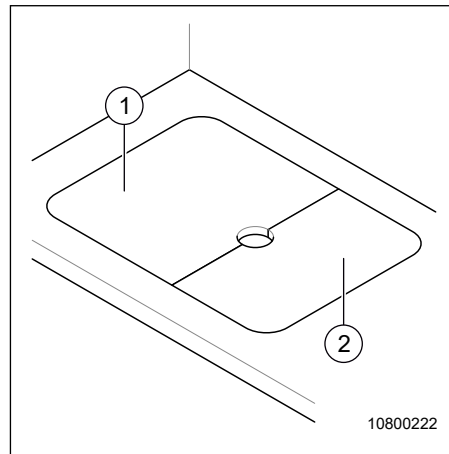
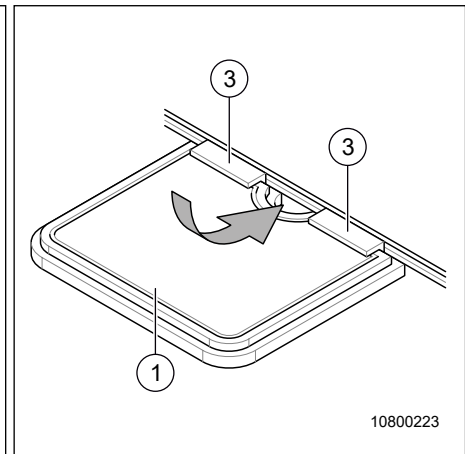

Fig. 33 Sink cover
Fig. 34 Work surface
- The covers (Fig. 33, Pos. 1, 2 and Fig. 34, Pos. 1) can be stowed away in a drawer under the gas cooker.
The cover (Fig. 34, Pos. 1) can be used as an additional work surface.
- Insert the cover (Fig. 34, Pos. 1) into the holder (Fig. 34, Pos. 3) equally with the edge at a slight angle from above and push in completely.